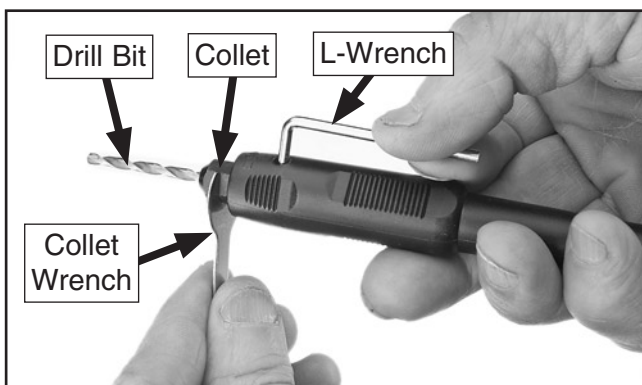

Figure 14. Securing drill bit in flex shaft collet.
4. Insert the L-wrench into the hole on the collet and tighten the bit with the collet wrench, as shown in **Figure 14**.